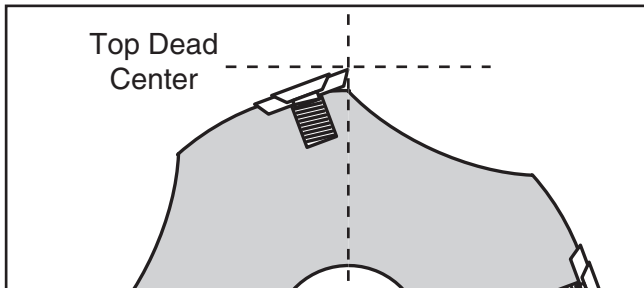

Figure 45. Cutterhead insert at top dead center.
- Open cutterhead pulley cover and rotate cutterhead pulley until one cutterhead insert is at top dead center (its highest point during rotation), as shown in **Figure 45**.